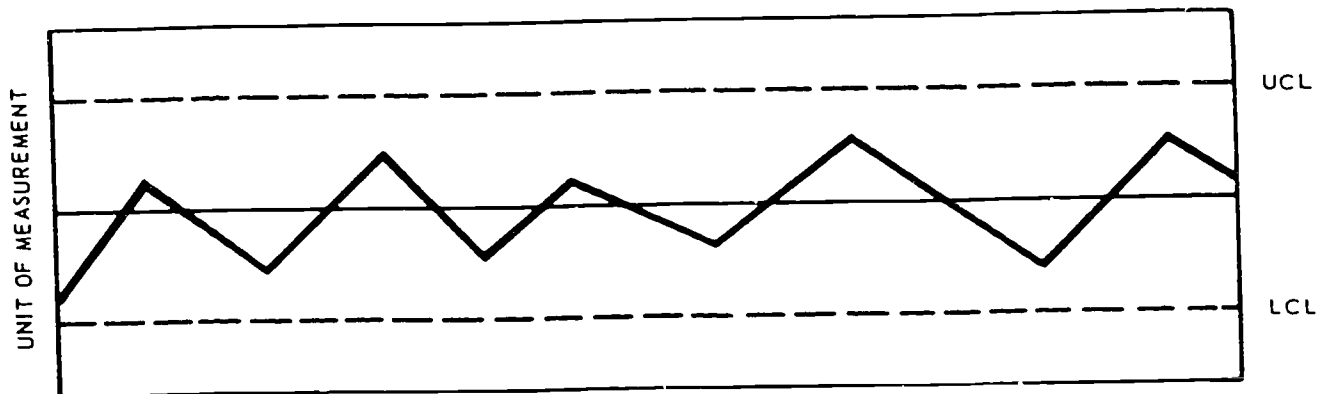

Figure 6-4. Typical control chart.
A control chart is a progressive line graph used for recording and charting data. It consists of two axes and three lines (see fig. 6-4). The first, or horizontal, axis may be marked off in periods of lines, frequencies, or in some other way. The vertical axis is marked off in whatever units you may be using in the measurement of the sample. It may be gamma, pH, density, or other units of measurement. The one line above or below the horizontal axis in the process limits. Generally, control charts are marked off into days of operation, but any time or frequency can be used.
1. Is the process depicted in figure 6-4 in control?